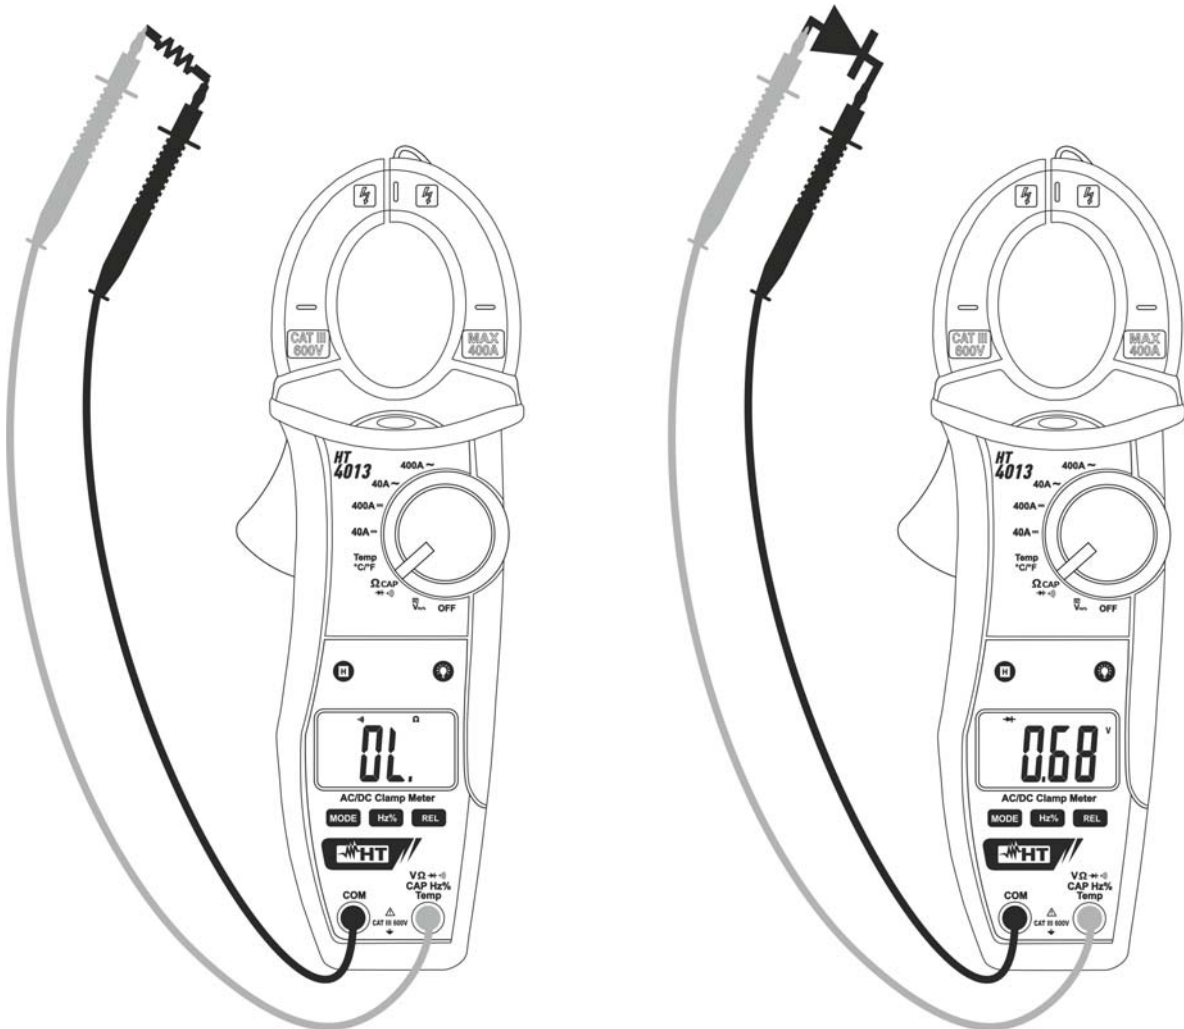

Fig. 7: Use of the clamp for continuity test and diode test
3. Insert the red cable into input terminal **V Ω \rightarrow CAP Hz %Temp** and the black cable into input terminal **COM** and carry out the continuity test of the object to be measured (see Fig. 7– left side). An buzzer sounds when the measured value of resistance is lower than 150 Ω
5. Connect the red lead to the anode of the diode and the black lead to the cathode in case direct polarization measurement is carried out (see Fig. 7 – right side). Invert the position of the leads in case reverse polarization measurement is carried out.